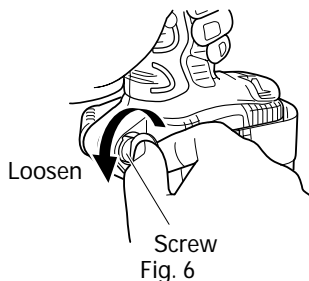

Fig. 6
- (a) Securely hold the main unit and remove the screw using a slotted head screwdriver or a coin (Fig. 6).
- (c) Install the hook and spring on the other side and securely fasten with screw (Fig. 6).